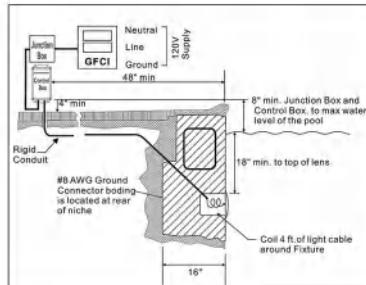

Figure 1
2. The junction box (or, for 12 volt models, the low voltage transformer) must be located at least eight(8) inches above water level, at least four (4) inches above ground level, and at least four (4) feet from the edge of the pool. See Figure 1.
3. The light fixture and all metal items within five(5) feet of the pool must be properly electrically bonded to a reliable point of grounding.
4. The wet niche must be properly installed so that the top edge of the underwater light's lens is at least 18 inches below the surface of the water in the pool. See Figure 1.
5. The wet niche must be properly electrically bonded and grounded via the No. 8 AWG ground connector located at the rear of the niche. See Figure 1.
1. Feed cord through conduit to junction box, leaving at least four (4) feet of cord at the light fixture to coil into the base of the light niche, see Figure 1. The four (4) feet of cord allows the light to be serviced after the pool is filled with water.
2. Cut the cord at the junction box, leaving at least six (6) inches of cord to make connections.
4. The wet niche must be properly installed so that the top edge of the underwater light's lens is at least 18 inches below the surface of the water in the pool. See Figure 1. The wet niche must be properly electrically bonded and grounded via the No. 8 AWG ground connector located at the rear of the niche. See Figure 1.
4. Feed cord through conduit to junction box, leaving at least four (4) feet of cord at the light fixture to coil into the base of the light niche, see Figure 1. The four (4) feet of cord allows the light to be serviced after the pool is filled with water.
5. Cut the cord at the junction box, leaving at least six (6) inches of cord to make connections.